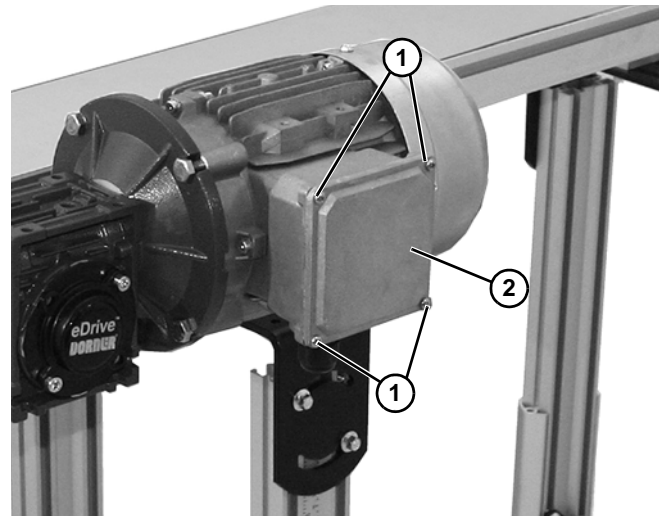

Figure 28
1. Loosen terminal box screws (**Figure 28, item 1**) and remove cover (**Figure 28, item 2**).